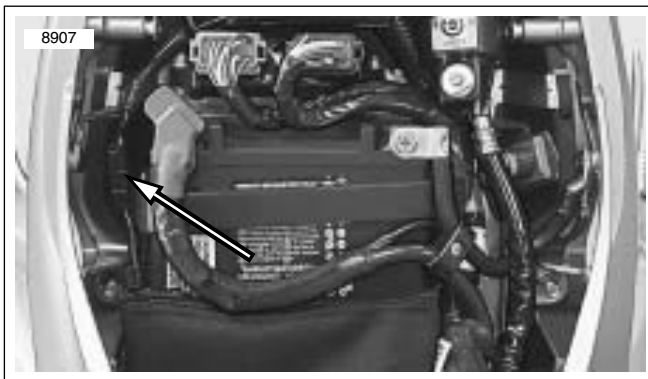

Figure 2-54. Brake Line Switch Connector
3. See Figure 2-54. Disconnect brake line connector from under seat in the front of the battery.